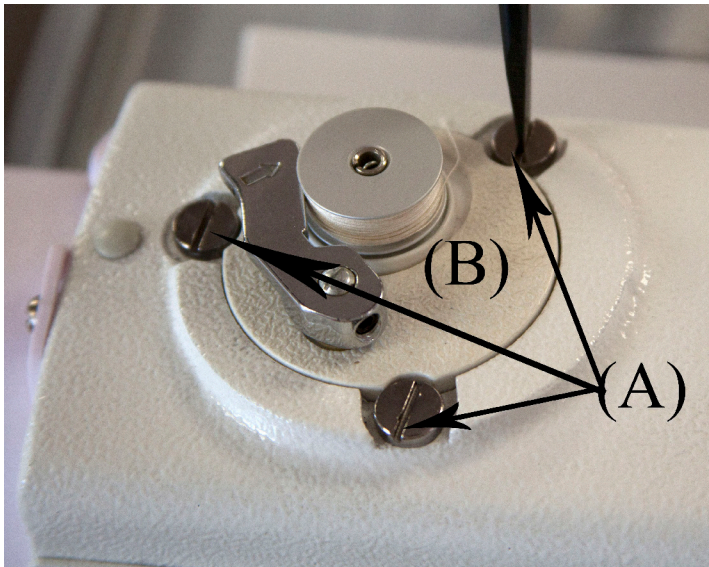

Figure 92
Step 1: Loosen the three (3) screws (A) holding the bobbin winder in place but do not remove them. *See figure 92*
Step 2: Twist the bobbin winder (B) to the right for more contact with the inner shaft or mover left for less contact.